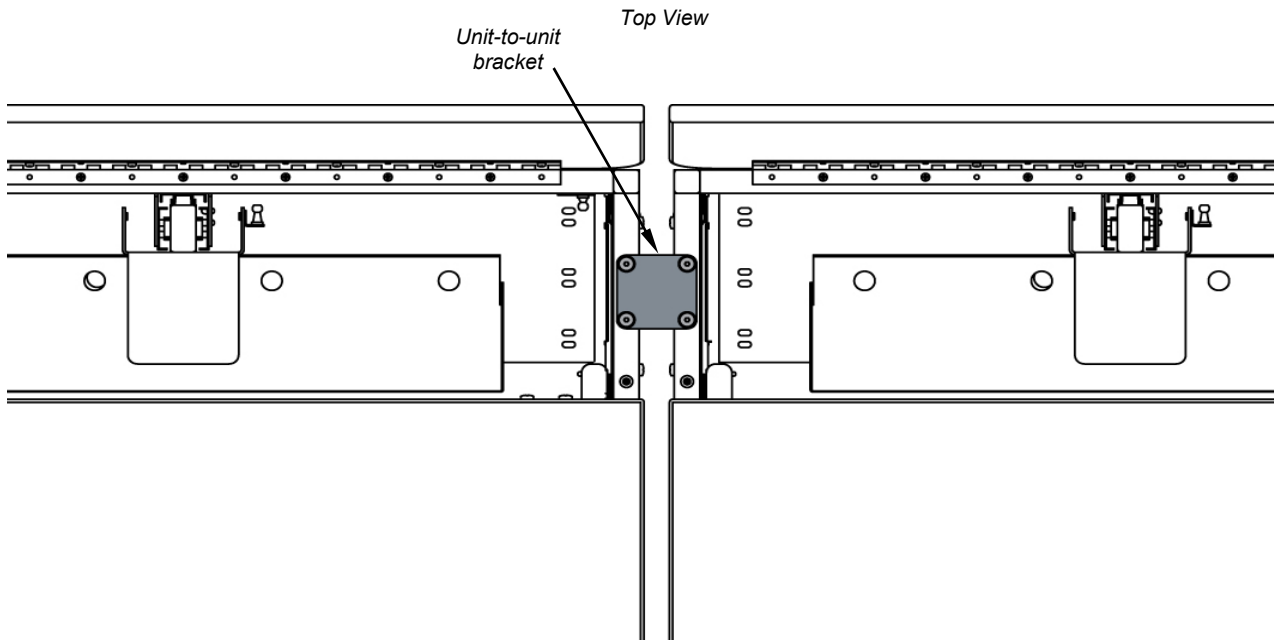

Figure 2
- A. Desks of equal height can be connected together with the included unit-to-unit bracket. **Figure 2.**
- C. Attach desks together with a unit-to-unit bracket and (4) 1/4-20 x 15mm JC bolts. Tighten bolts securely.